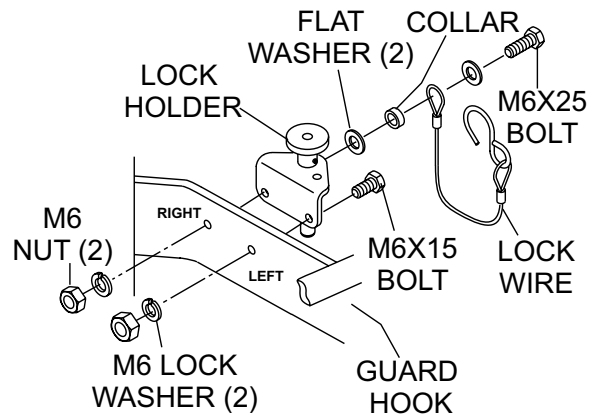

Figure 4. Lock Holder Installation
- Using a 10 mm socket, secure the lock holder, item 8 (Figure 4) to the guard hook by inserting a M6X15 bolt, (item 7) through the left-side bolt hole opening.